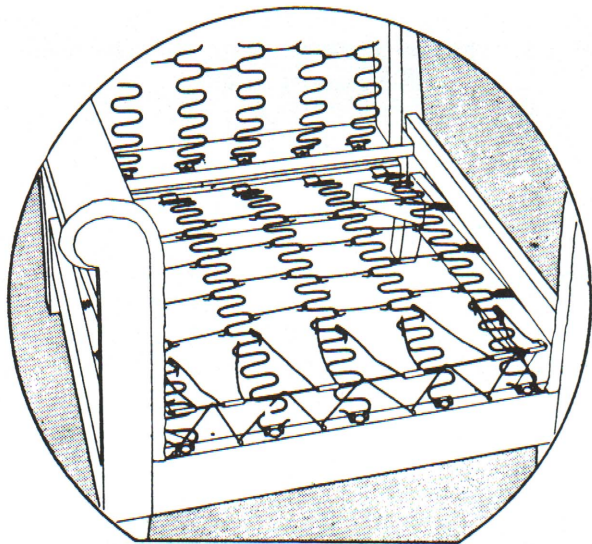

Fig. 5—Zig-Zag springs.
- c. Zig-zag Springs (Fig. 5) with clips, connecting links and cement coated nails to apply.